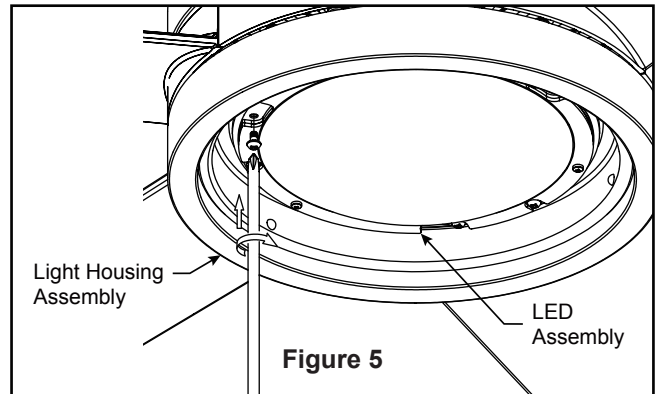

Figure 5
5. Assemble the LED assembly to the light housing assembly using the two key slots. Replace the previously removed screw and securely tighten all three screws. (Figure 5)